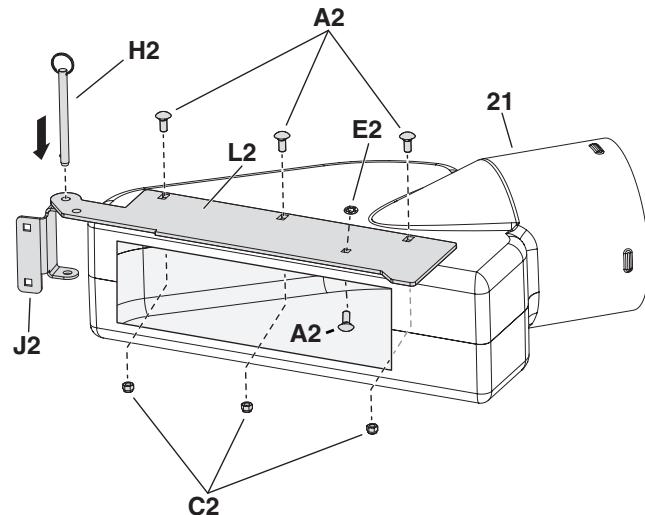

FIGURE 30
- Position deck adapter (21) so that the top lip of the deck hinge (J2) is on top of the adapter (21) while the bottom lip is inside the adapter (21).
- Position boot mount bracket (L2) in place on the deck adapter (21) and mark holes for drilling. Drill holes in deck adapter for attaching boot mount bracket.
- Place a 5/16" x 3/4" carriage bolt (A2) through the deck adapter (21) and boot mount bracket (L2). Install a retainer nut (E2) using a 7/16" socket to push the retainer nut (E2) onto the 5/16" carriage bolt (A2)
- Attach boot mount bracket (L2) to deck adapter (21) using three 5/16" carriage bolts (A2) and 5/16" whizlock nuts (C2). Tighten hardware but be careful to not overtighten. See figure 30.